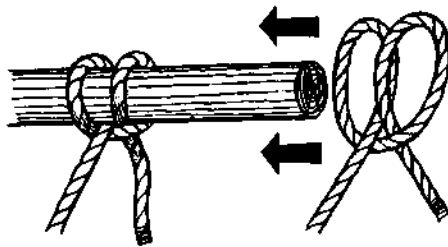

Fig. 17
2. Make a second round turn on the other side. 3. Tuck the loose end through this second turn and haul taut (Fig. 17). Where the securing position has an open end, a Clove Hitch can be made very quickly either at the end or in the middle of a rope by slipping on two loops as shown in figure 17.